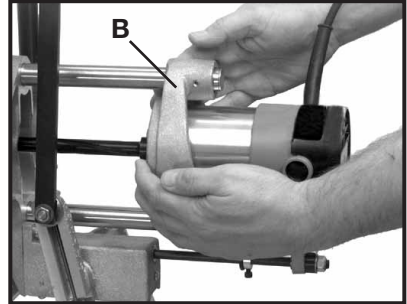

Fig. 9
8. Move feed lever (A) to horizontal position to disengage feed mechanism.
9. Grasp motor carriage (B), Fig. 9, with both hands and pull towards you until bit is clear of cut mortise. Remove mortiser from 2" x 6" (50.8 x 152.4 mm).